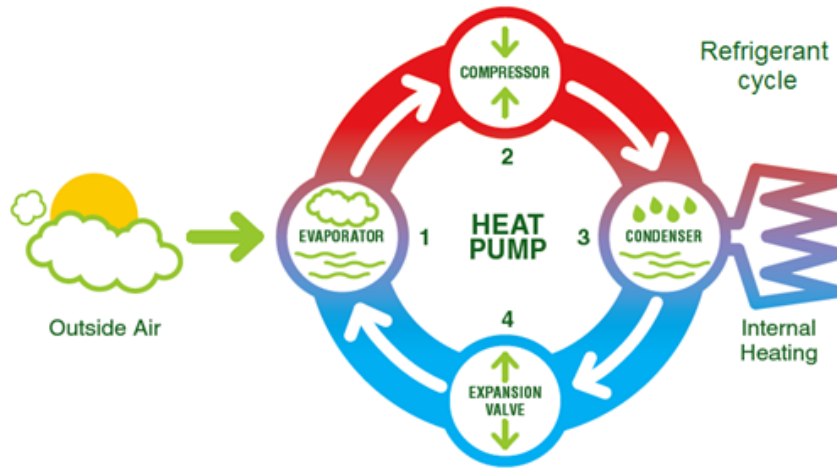

FIGURE 1: REFRIGERATION CYCLE
The operation of the heat pump is shown in figure 1. A heat pump works on the same principle as a fridge, using a refrigerant fluid which boils at a low temperature. Free energy is taken from the air to boil the refrigerant in the **evaporator coil (1)**, changing it from a liquid to a vapour. This low grade heat is upgraded by the **compressor (2)** increasing its pressure, and consequently its temperature, to a useful high temperature. The heat is transferred to your heating system by the **condenser (3)**, where the refrigerant becomes liquid once again. The liquid refrigerant is then expanded using an **expansion valve (4)** to a low pressure fluid before repeating the cycle.